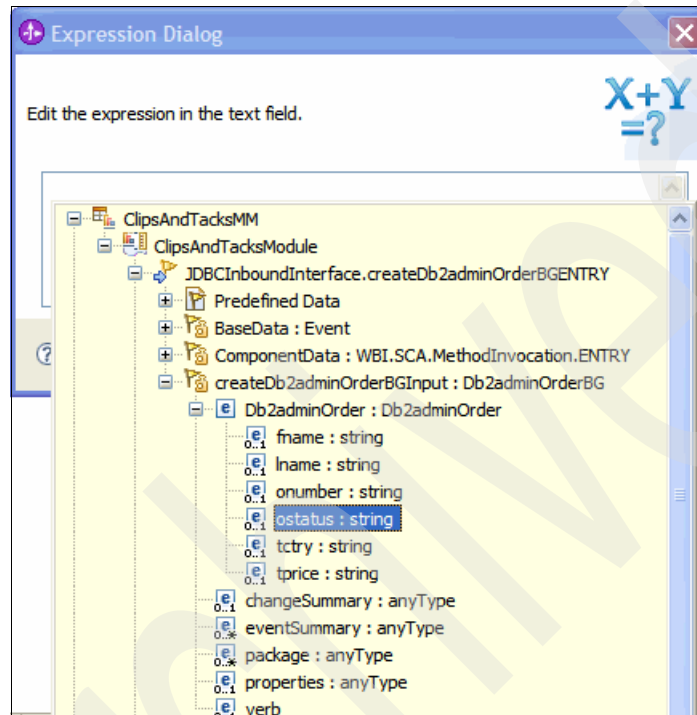

Figure 6-52 Selecting the Order Status
- In the Expression Dialog (Figure 6-52), press Ctrl+Spacebar. Select **ClipsAndTacksMM** → **ClipsAndTacksModule** → **JDBCInboundInterface.createDb2adminOrderBGENTRY** → **createDb2adminOrderBGInput** → **Db2adminOrder** → **ostatus : string**. Then click **OK**.